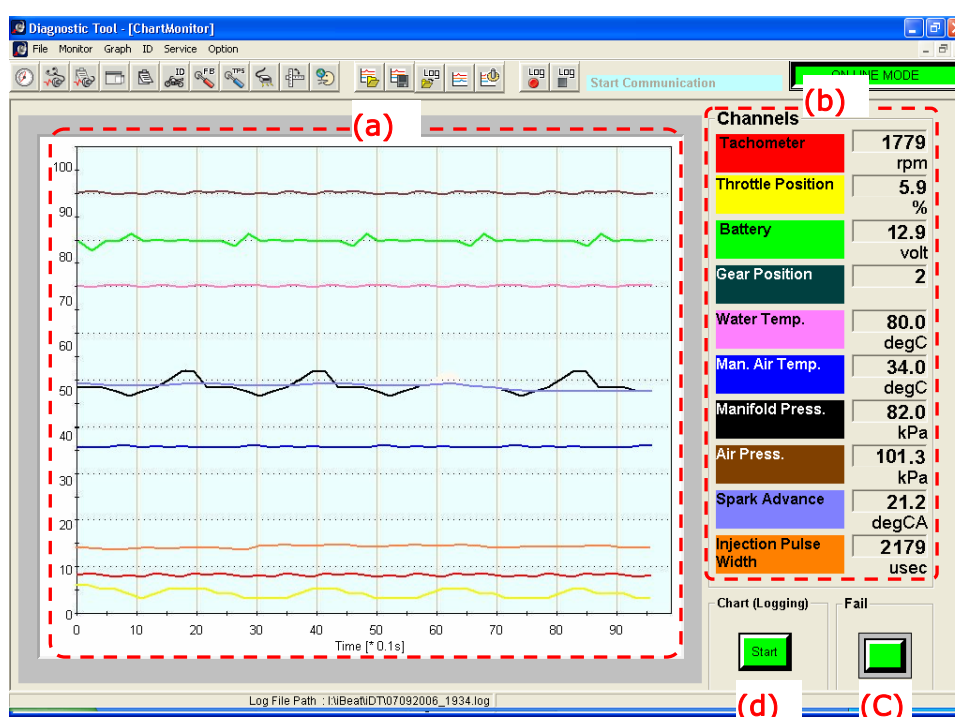

Fig. 6-2-1
(3) The following is description of the abnormal conditions on a vehicle may exhibit (Fig. 6-2-1 (c)).
(4) Logging operation is performed as follows:
i) Press the [**Start**] button (Fig. 6-2-1 (d)) and logging of vehicle data will begin.